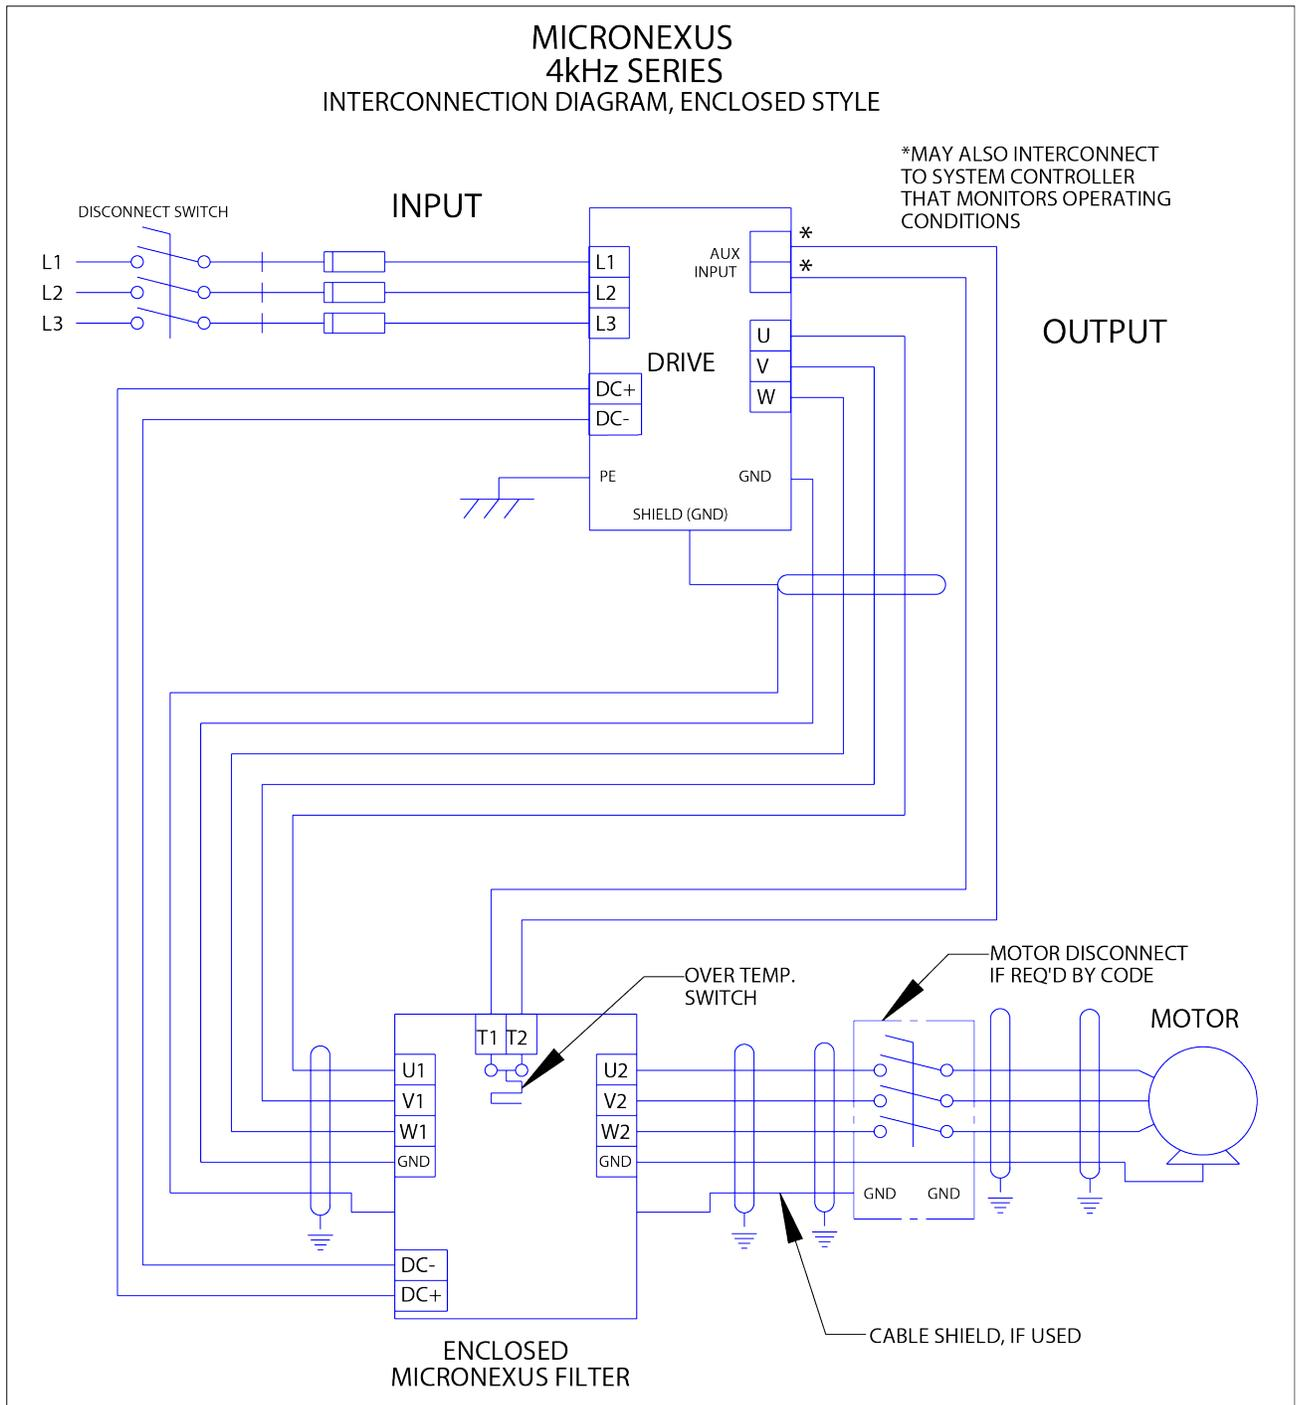

Figure 5-3: Enclosed Interconnection
- Interconnection between the power source, VFD, MTE filter, and the motor is shown in Figure 5-3: Enclosed Interconnection (p17).